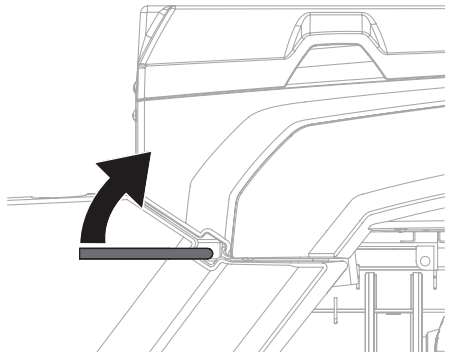

Figure 7
2. For light loads, unlatch cargo bed by pulling up on one of the cargo bed release levers. While holding the cargo bed release lever lift the cargo bed (Figure 7).